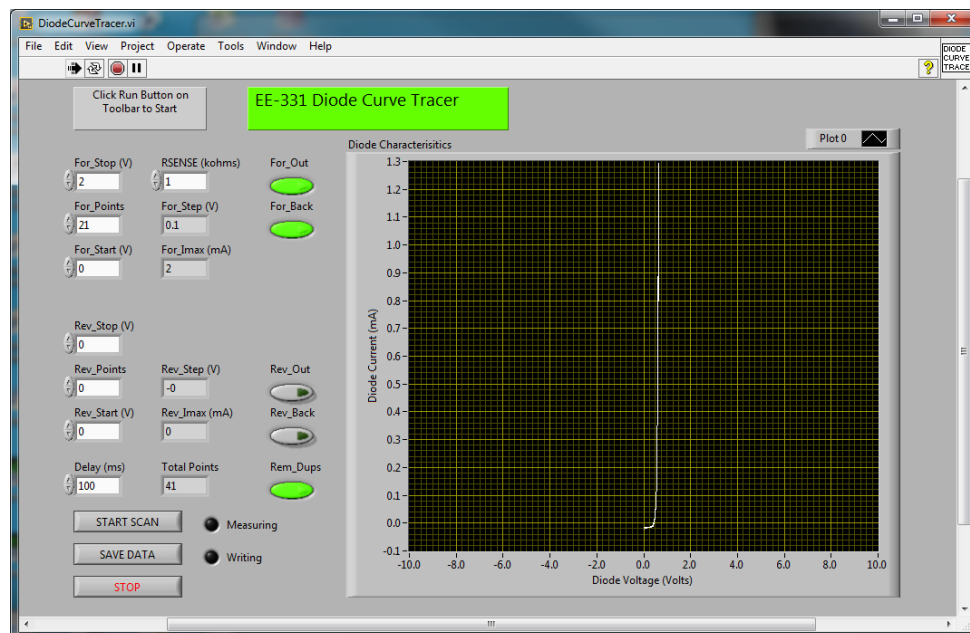

Figure E1.5
The front panel window is shown in Fig. E1.5 below.
**Measurement-5** From the front panel window, click on the run button to start the diode curve tracer VI. Use the following settings for the forward and reverse bias scan ranges: forward bias: 21 points from 0.0 Volts to +2.0 Volts, and reverse bias: 0 points from 0.0 Volts to 0.0 Volts, since the NI-USB-6009 DAQ analog output cannot create negative output voltages. Enable forward out and forward back segments of the scan, and remove the duplicate points for a total of 41 points. Enter a delay of 100 ms and an  $R_{SENSE}$  value of 1 kohms. After rechecking all of the connections, click on the START SCAN button, which should start the measurement sequence and then display the resulting diode I-V characteristics on the x-y chart, similar to those shown in Fig. E1.5.